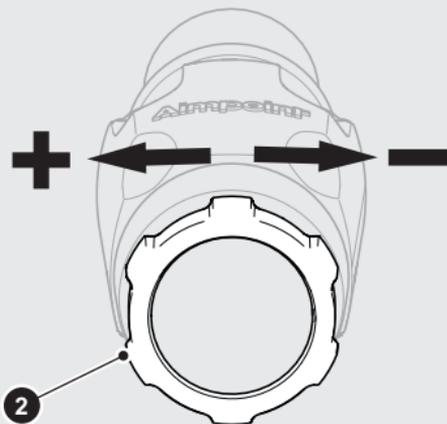

Fig. 6 Diopter setting
Additionally, on the 6XMag-1 it is possible to adjust the diopter setting by rotating the diopter ring (2) as shown in Fig. 6.